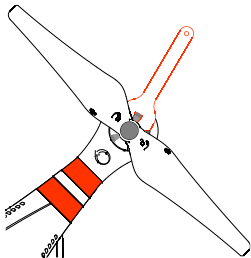

Figure2-3
- ( Figure 2-3 ) Keep the motor deadlocked in place with the assistant wrench (or one hand) and remove the propeller according to the un-fastening instructions.